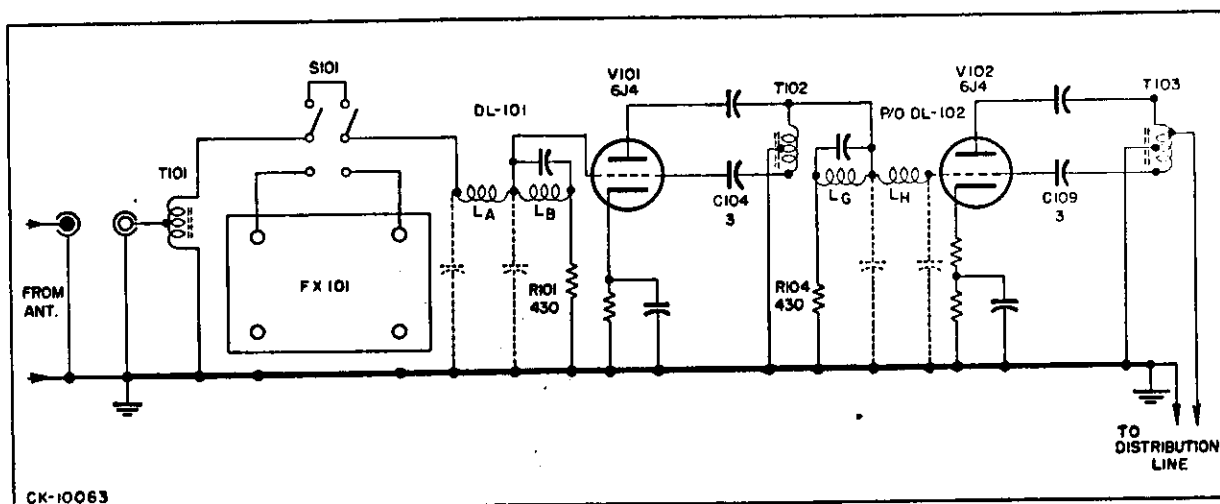

Figure 2-1. PRE-AMPLIFIER CIRCUIT
a. The pre-amplifier is shown in Figure 2-1 and consists of two neutralized amplifier stages in cascade. Both stages employ the 6J4 triode tube in order to maintain a good noise figure.